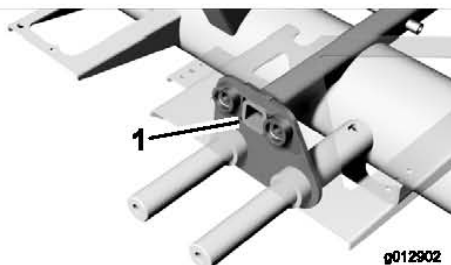

Figure 2
Should a fracture occur in the pivot support area, use Lift Support Frame Repair Kit (119-6950) to repair the area. Figure 2 is a representation of the kit contents. Inspect the two Lift Arm Pivot Shafts (95-8531) for wear and replace as necessary. Pivot shafts must be ordered separately.
1. Lift cylinder pivot shaft (2)
4. Cut off any remaining tube protruding from the lift plate (Figure 2). Also, grind the tube flush to the lift plate.